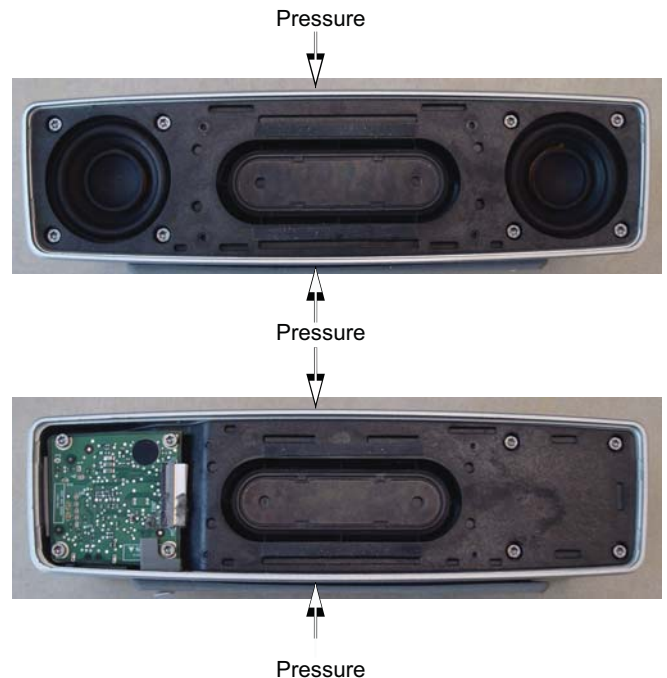

Figure 28. Baffle Gasket Compression
5.1 When securing the screws indicated in Figure 28, apply pressure at the points indicated. The baffle gasket provides an outward pressure on the cabinet which must be counteracted when securing the baffle screws. Failure to do so will result in an air leak.